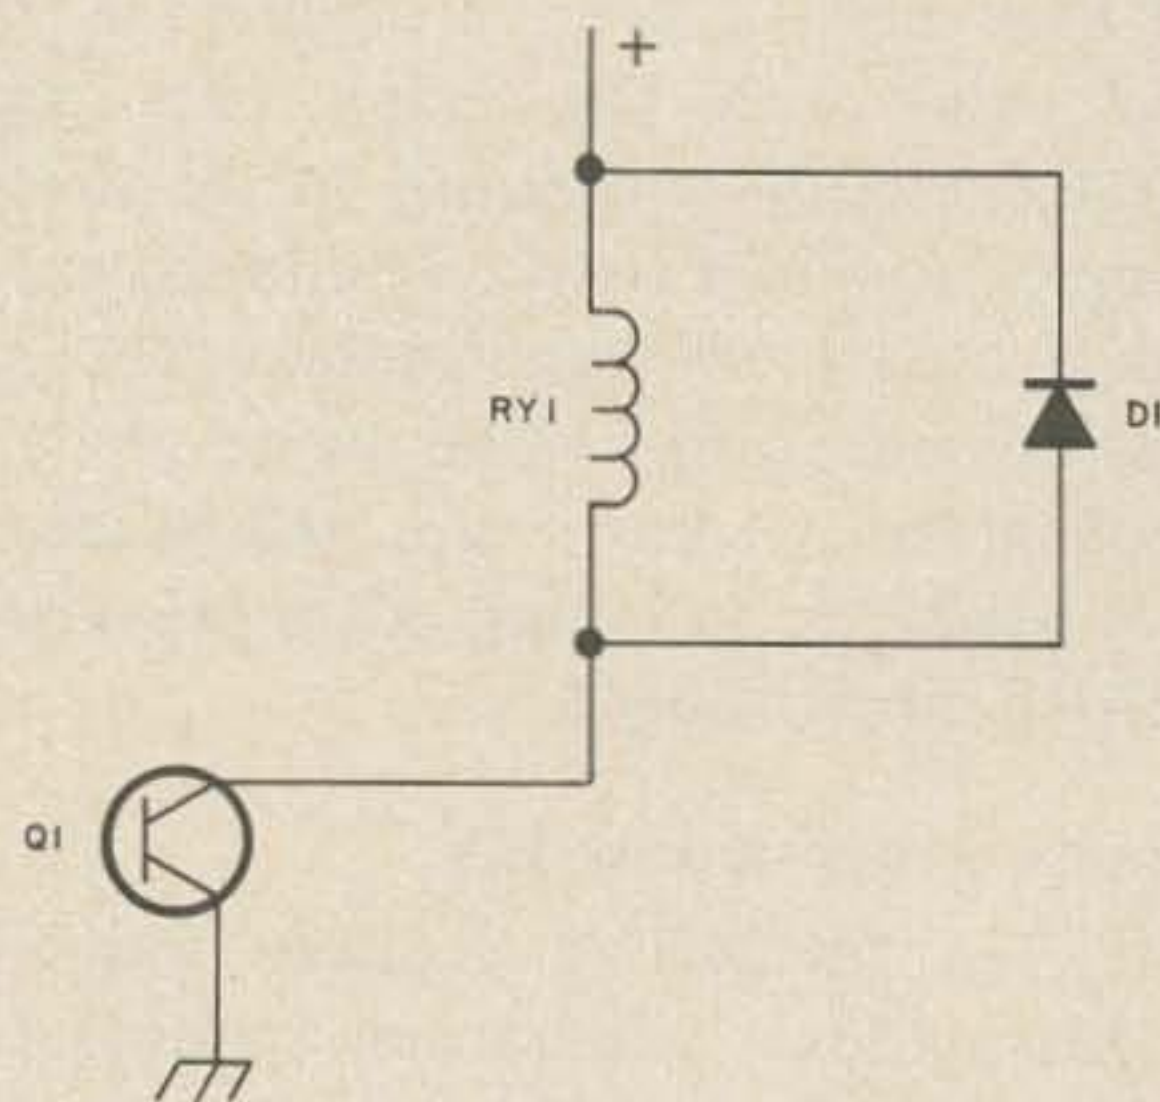

Fig. 3a. Diode noise suppression for dc circuit.
1. Relays and solenoids exhibit the characteristic inductive kick when they are de-energized. See Fig. 3a. If the coil runs on dc, a diode D1 will protect Q1 and suppress the